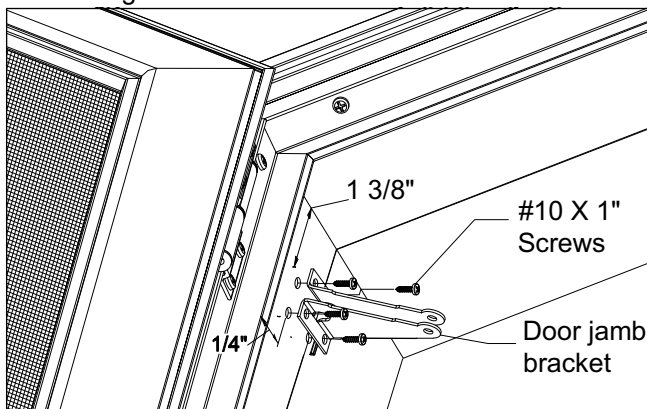

Figure 12
2. **For 6 9/16" Jamb Depth:** Measure and mark 1 3/8" (35) from head jamb on the primary hinge side jamb. Align the top of the door jamb bracket level with the mark, and 1/4" inwards from screen door panel. Using the door jamb bracket as a template, mark screw holes and pre-drill with 7/64" drill bit. See figure 12.